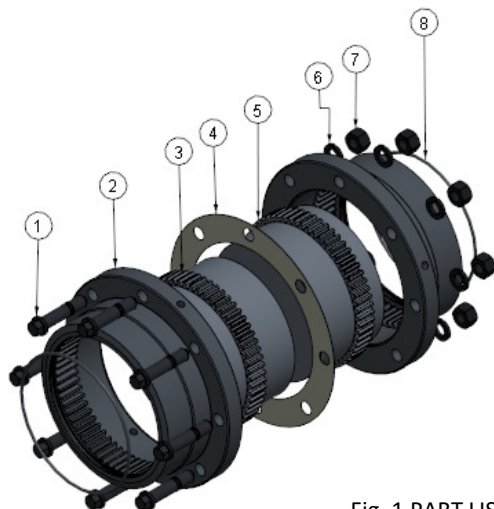

Fig. 1 PART LIST
- RGD/RGS couplings are delivered by RTPL as assembled condition which consists components from 1 to 8 as shown in fig. 1.